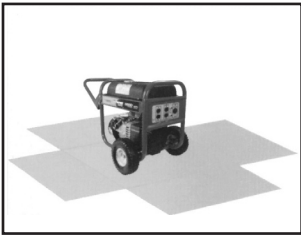

Figure 1
- (a) Do not attempt to lift generator out of the carton. Cut each corner of the carton to open and lay carton flat (see Figure 1).